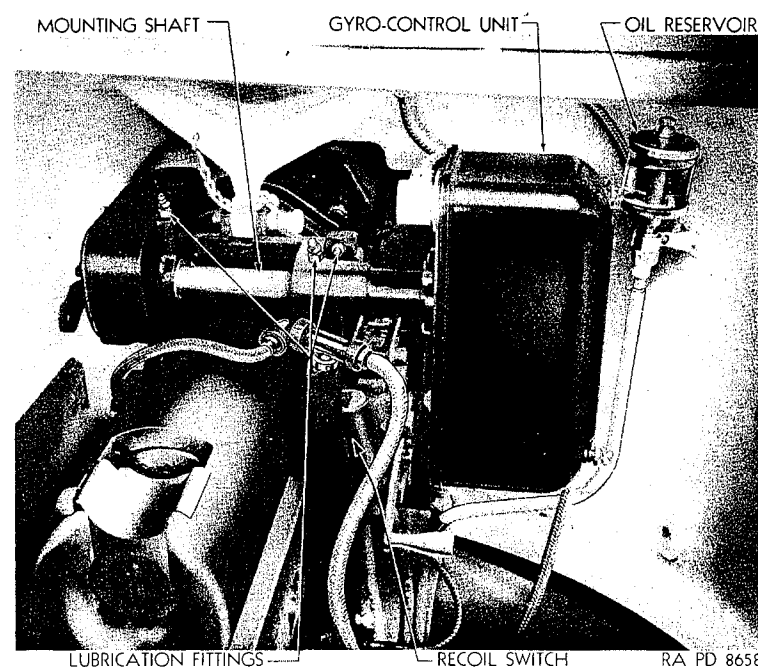

Figure 75—Mounting Shaft and Bracket, Gyro-Stabilizer
c. The mounting of the gyro-control unit, the piston and cylinder assembly, and the mounting bracket assembly are shown in Figure 75. The master switch which is located on the floor of the turret basket under the gunner's seat also controls the turret traverse mechanism.
- c. Remove the cap from the oil reservoir. (Figure 75).